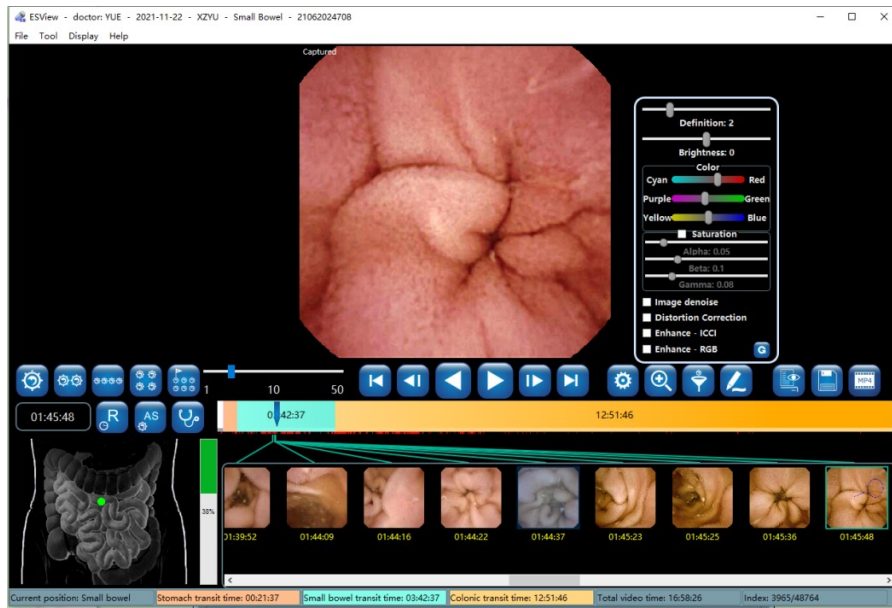

Figure 4-37: Definition and Brightness Adjustment
- Use the definition and brightness sliders to adjust the definition and brightness of the image (Figure 4-37).